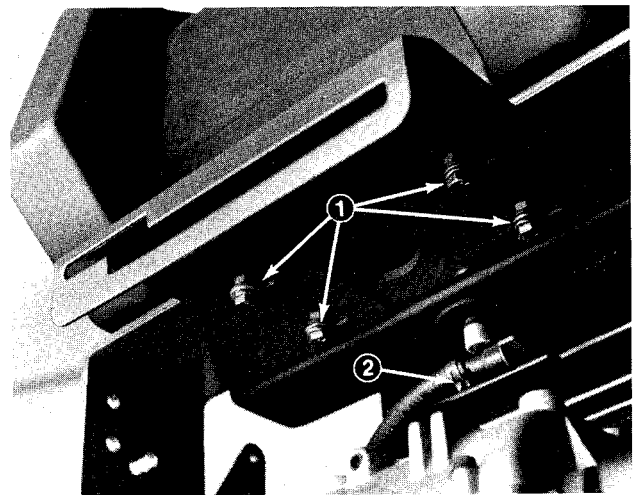

Figure 2
3. Secure fuel line to tank fitting with hose clamp (Fig. 2).
3. Move shift lever to reverse and 4th gear. Control panel mounting holes are slotted to enable it to be moved from side to side (Fig. 2). Position control panel as needed to achieve full shift range. Tighten mounting screws to a maximum of 90 in - lb. **DO NOT OVERTIGHTEN.**